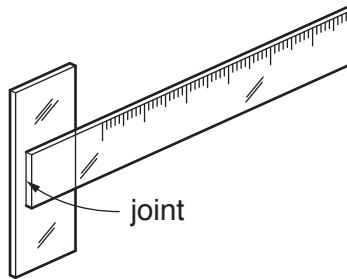

Fig. 4
- 7 Fig. 4 shows a tee square made from two pieces of acrylic.